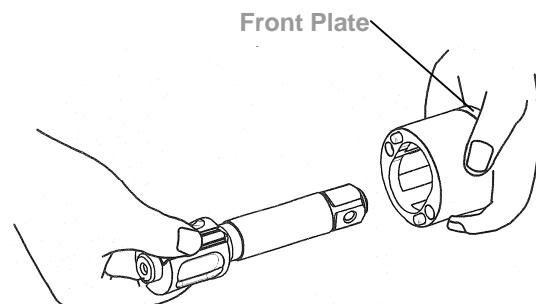

Fig. 208
**⚠ MUST** follow the direction as shown in Figure 208 while installing the anvil unit into the pulse cylinder; be sure to aim at the highest points by two sides of the interior pulse unit and press the two drive blades in slowly.